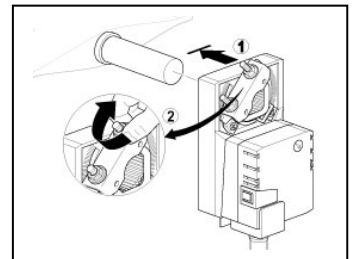

Fig A-1
4. Install the new 3/4" shaft spacer washer, and rotate damper shaft to CLOSE the damper. Place AHDM actuator over damper shaft, and hand tighten the shaft clamp nuts. **See Fig. A-1**